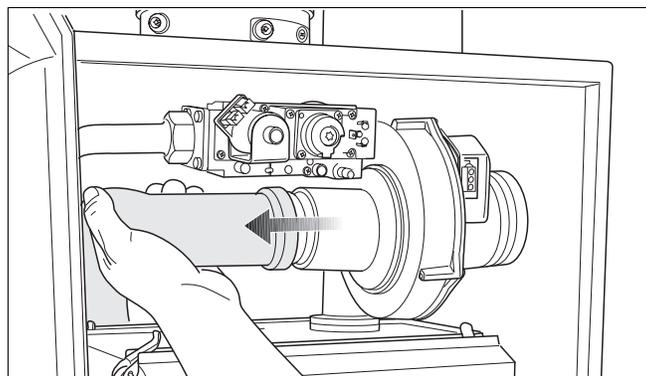

Fig. 82 Pulling the air suction tube from the fan
- Pull the air suction tube from the fan (fig. 82).